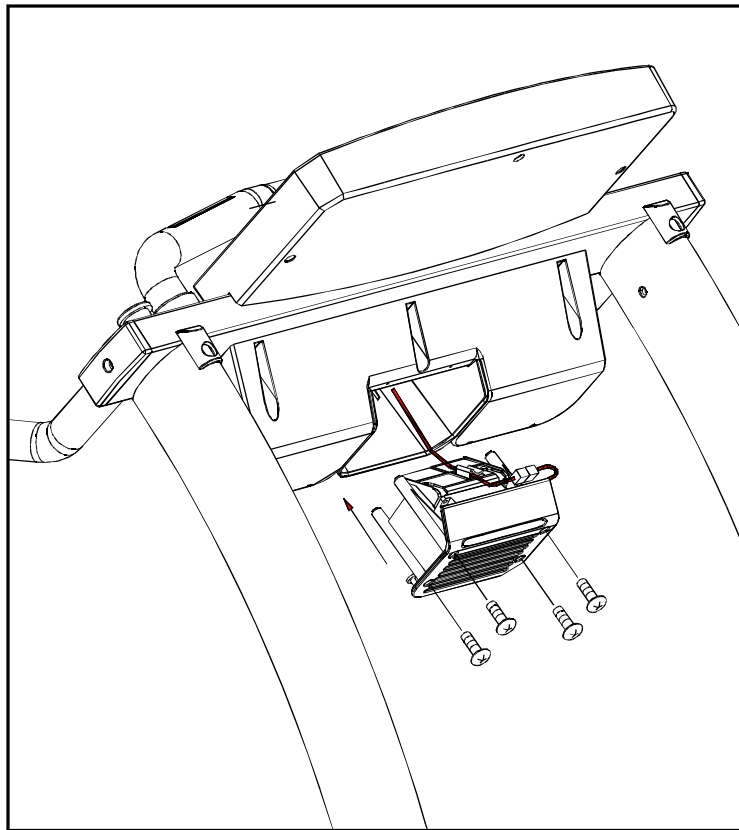

Fig.9
9. Assemble the screws on the bottom of the fan cover. (see Fig.9)